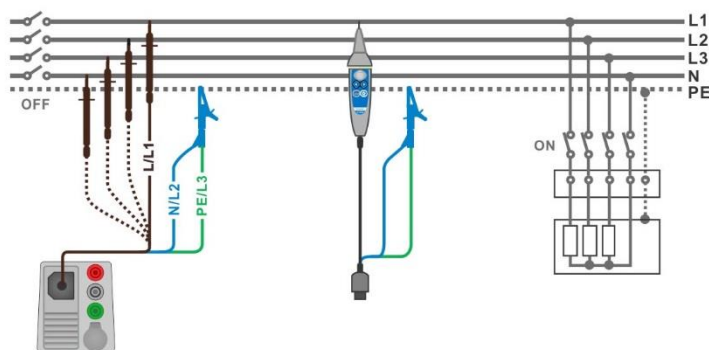
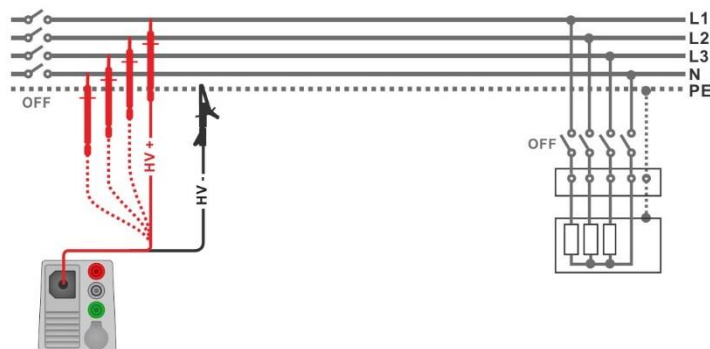

Figure 7.15: Connection of 3-wire test lead and Tip commander ($U_N \leq 1 \text{ kV}$)
Figure 7.16: Connection of 2.5 kV test lead ($U_N = 2.5 \text{ kV}$)
- Connect test leads to object under test (see **Figure 7.15** and **Figure 7.16**).